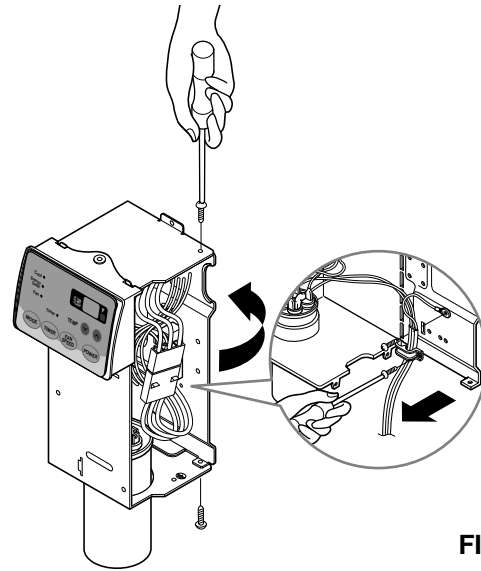

FIG. 36
6. Pull the power cord. (See Fig. 36)